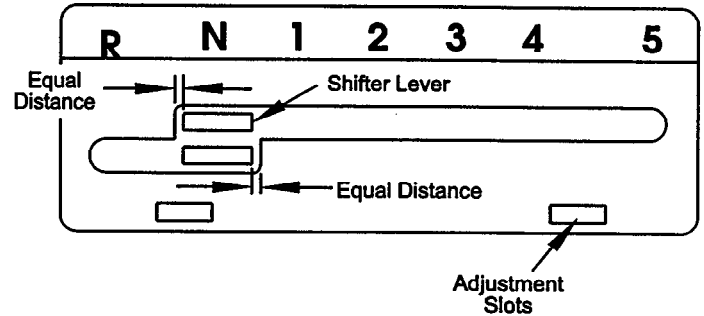

FIG. 7
- c) Shift to neutral position. Lever should not contact the left edge of the upper slot. Push lever down. Lever should not contact the right edge of the bottom slot (See Figure 7). Shifter plate can be adjusted side to side to adjust position of lever relative to the slot in plate. Loosen the two bolts securing the shifter plate to the shifter lever legs. Adjust shifter plate and retighten bolts.